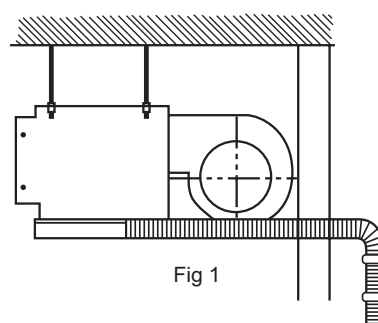

Fig 1
4. The connecting pipe between the indoor and outdoor units as well as the drain pipe shall be as short as possible. (See Figure 1)
- The round duct needs to add a transition duct to connect with the air-sending duct of indoor unit, then connect with respective separator. As Fig. 1 shown, all the fan speed of any of the separator's air outlet shall be adjusted approximately the same to meet the requirement for the room air conditioner.